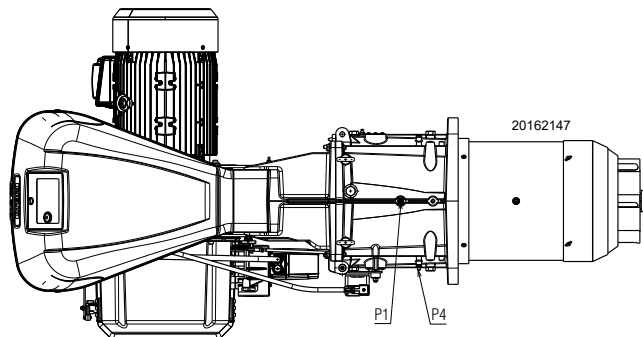

Fig. 22
Gas pressure measured at the test point P1) (Fig. 22), with:
- subtract the combustion chamber pressure from the gas pressure measured at test point P1) (Fig. 22).
$$\begin{aligned} \text{Gas pressure at test point P1)(Fig. 22)} &= 27.6 \text{ mbar} \\ \text{Pressure in combustion chamber} &= 2 \text{ mbar} \\ 27.6 - 2 &= 25.6 \text{ mbar} \end{aligned}$$
To calculate the required gas pressure at test point P1) (Fig. 22), set the MAX output required from the burner operation:
- read, on the right (column 1), the pressure at the test point P1)(Fig. 22).
Pressure required at test point P1)(Fig. 22).